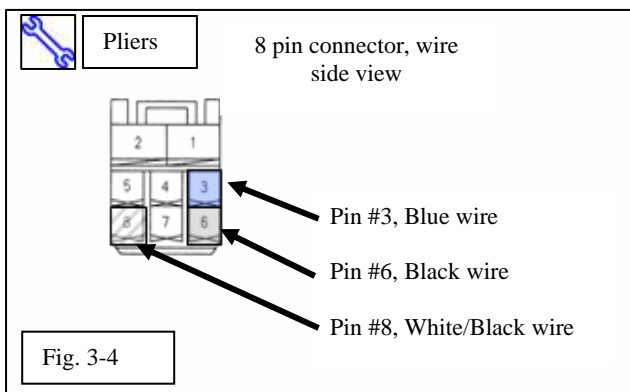

Fig. 3-4
- (d) Install T-Taps to the 8 pin connector. (Fig. 3-4)
- (1) Apply a T-tap to the BLUE wire, PIN #3 about 1 inch away from the connector.